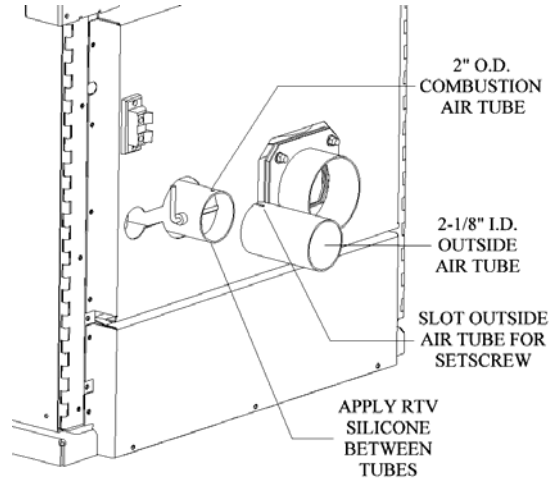

Figure 11A
1. It is recommended that the stove be connected to an outside source of combustion air under certain conditions (negative pressure). An outside air kit is available, part # 100354 or any flexible metal hose or rigid metal pipe (conduit) must be connected around (NOT INSIDE) the combustion air inlet tube (Figure 11A). Be careful not to pinch or bend the outside air pipe with too small a radius. Outside Air Pipe may be terminated flush with the outside wall but should be protected from wind and weather by a hood. Note: The outside air pipe must terminate above the maximum snow line and below the exhaust vent outlet.
3. Increase the outside air pipe diameter to 3" for runs over ten (10) feet and elevation over 4,000 feet. Note: Long runs should be avoided.